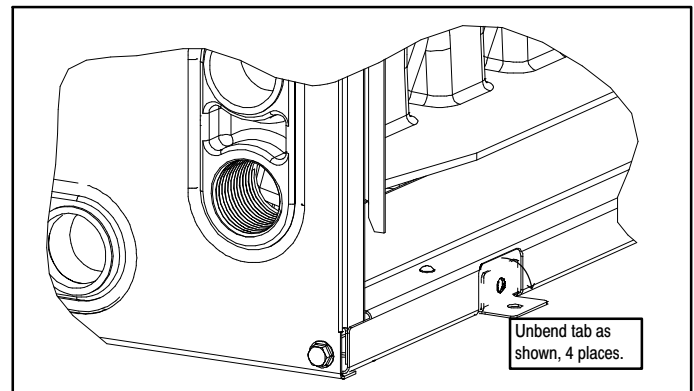

Figure 6 – Horizontal Left Installation
1. Unbend the 4 tabs at the right side of the casing. (See **Figure 6**)